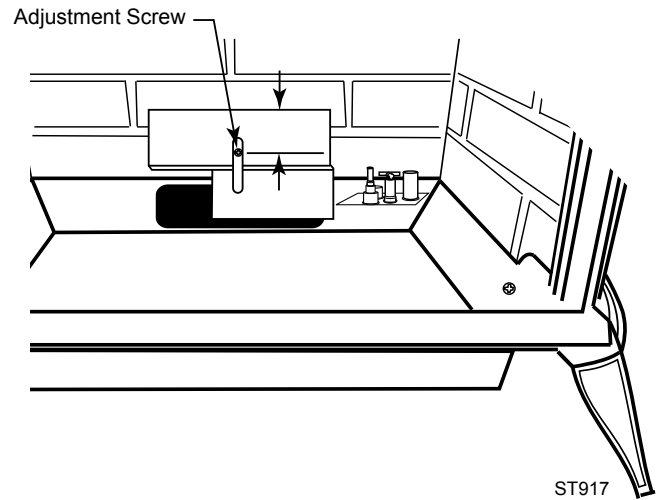

Fig. 9 Loosen screw to adjust restrictor plate.
The Radiance stove is shipped with a restrictor plate in the Parts Bag. Adjustments can be made by loosening the adjustment screw to allow the restrictor plate to slide up or down. (Figure 9) A guide for usage is shown in Figure 10.
- Install restrictor plate as shown in Figure 9 with cut out on left side. Secure with adjustment screw.
- Measure from center of screw to top edge of diverter (Figure 9) to adjust plate according to guidelines in Figure 10.